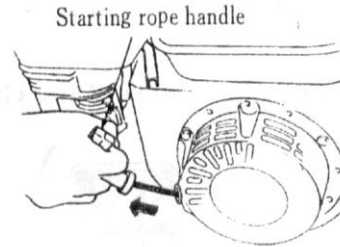

Fig. 16
4. Start the engine (Fig. 16).